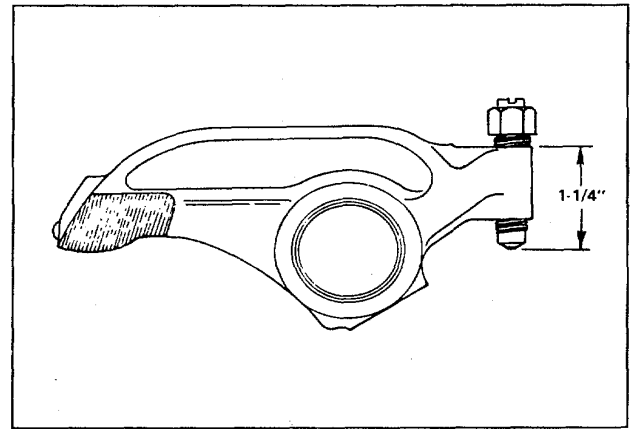

Fig. 14-68. The Correct Position For The Adjusting Screw.
2. Loosen the locknuts for the adjusting screws. Loosen the adjusting screws so that there is a maximum of 1.250 inch [31.8 mm] from the top surface of the lever and the ball end of the adjusting screw, Fig. 14-68.
Caution: If the adjusting screw protrudes beyond the maximum shown in Fig. 14-68, the push rods can be damaged when you tighten the capscrews for the housing.